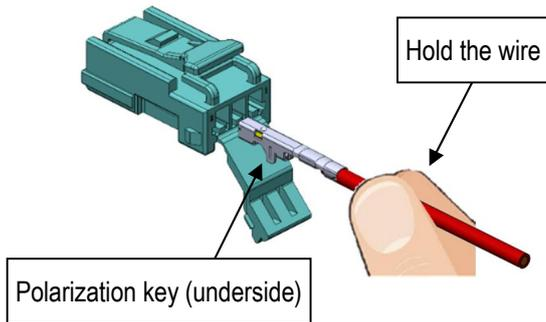

Fig 25. Terminal insertion direction: 1 ROW
- ① Ensure that the terminal is crimped correctly and there is no damage, deform or dirt present.
- ② Hold the wire to insert the female terminal as shown in **Fig.25** and **26**.
- ③ Insert the terminal into the corresponding corehole of the housing, as deeply as possible, in the orientation as shown in **Fig. 25** and **26**.
- ④ Once the female terminal is inserted, ensure that the female terminal retention is fastened by pulling the wire lightly towards you.